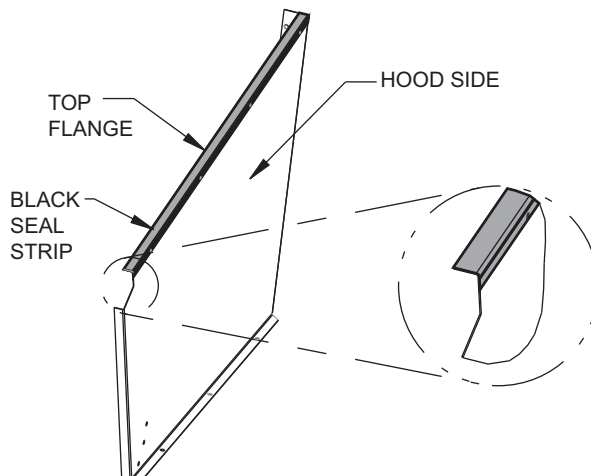

Fig. 26 — Adding Seal Strip to Top of Hood Sides
1. Apply black seal strip (provided) to outside top-edge of hood sides. Wrap seal strip over edge to cover top flange (2 hood sides per hood assembly). Make sure seal strip covers screw holes. See Fig. 26.